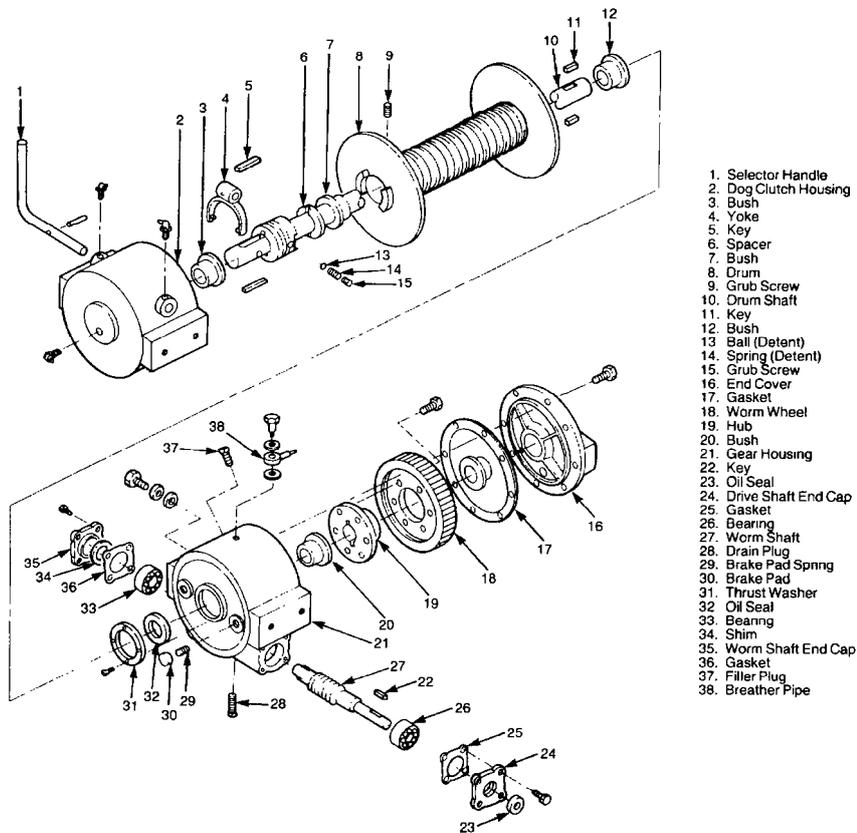

Figure 324 Winch Assembly – Exploded View
- f. Withdraw the dog clutch housing and lever (Figure 324).
- h.** Fit the worm shaft and bearing into the drive housing so that the keyed end is in the same position as shown in Figure 324.